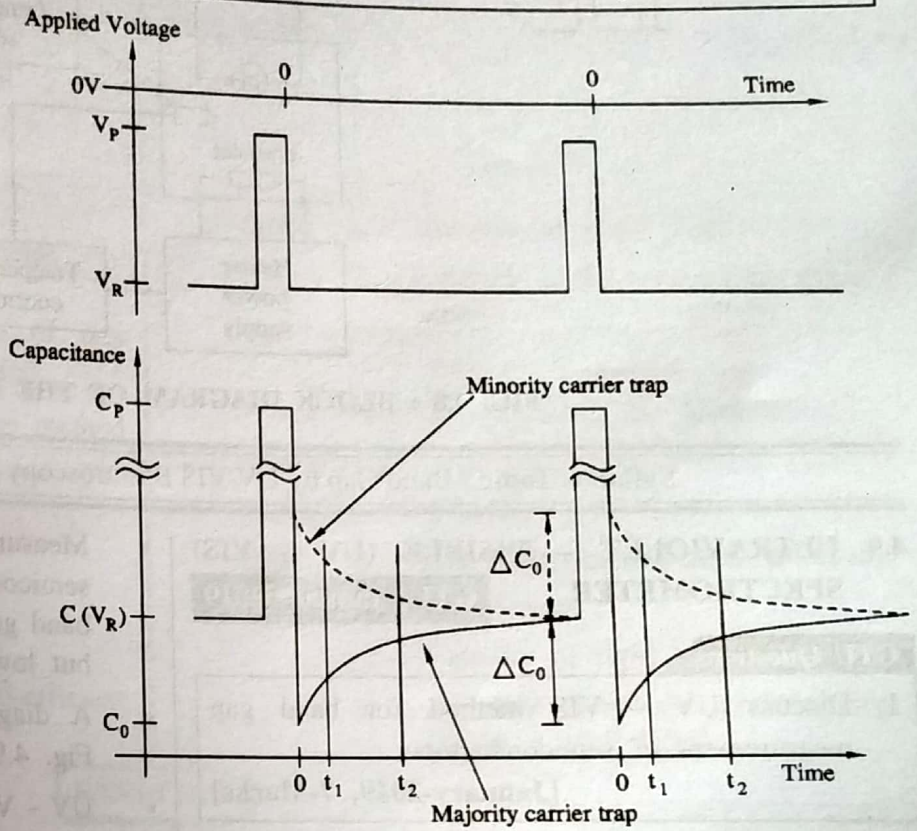

FIG. 4.7 : APPLIED VOLTAGE AND CORRESPONDING CAPACITANCE TRANSIENT
- DLTS Technique Fig. 4.7 shows how the capacitance transient is generated.